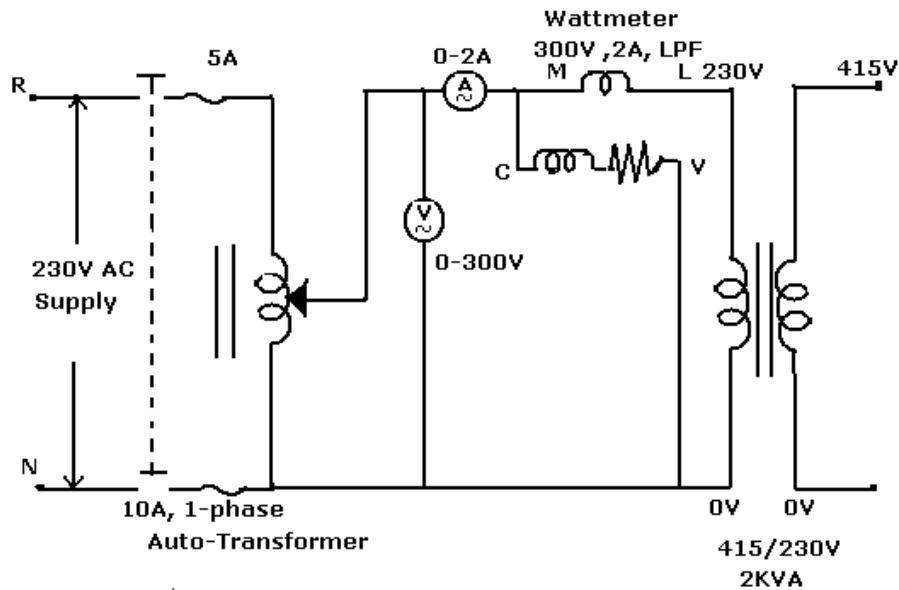

Fig.1.1: Open Circuit Test
In open circuit test, usually HV side is kept open and meters are connected on LV side as shown in the fig.1.1. When rated voltage is applied to the LV side, the ammeter reads the no-load current  $I_0$  and watt meter reads the power input. The no load current  $I_{NL}$  is 2 to 5% of full load current. Hence, the copper losses at no-load are negligible. We represent the iron or core losses. Iron losses are the sum of hysteresis and eddy current losses.
- \* Connect the circuit diagram as shown in the figure 1.1